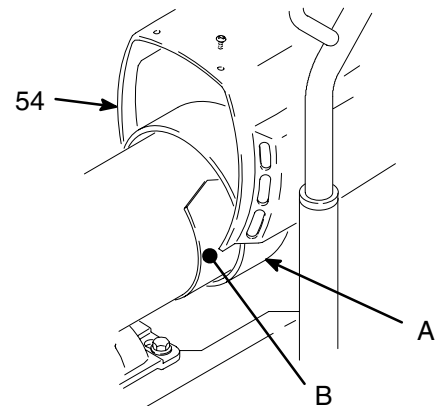

Fig. 4
4. Fig. 4. Remove motor shield (54), fan cover (A) and inspection covers (B).
3. Fig. 4. Remove motor shield (54). Remove inspection covers (B) and gaskets on each side of motor.